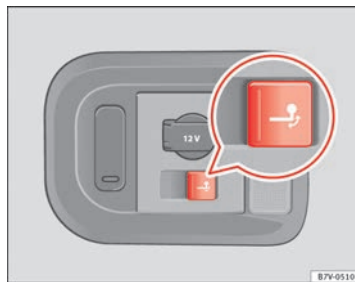

Fig. 158 Right-hand side of the luggage compartment: button to electrically release the tow hitch ball
- Press the knob briefly ⇒ Fig. 158. The tow ball is released electronically and folds out automatically; the button indicator will blink.
- Press the knob briefly ⇒ Fig. 158. The tow ball is electronically released; the indicator blinks.